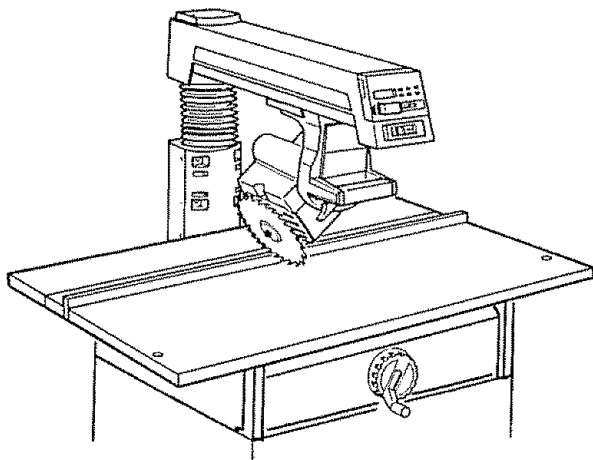

Fig. 75
13. Unlock the *bevel lock* and move the *motor* to the 45° bevel position. (Figure 75)